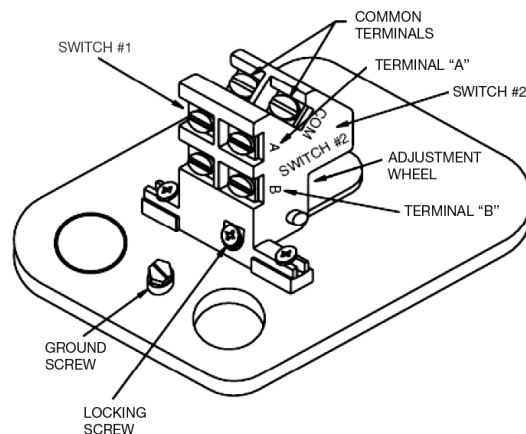

FIGURE 1
3.3.2 Back out the locking screw (see Figure 1) to allow main adjustment wheel to turn freely.
- b) Adjust main adjustment wheel (see Figure 1) to desired setting for pump to turn ON.